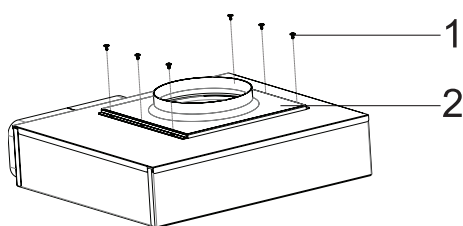

Fig. 30
- Remove the 6 flue ingress plate connection screw and remove the flue ingress plate (Fig. 30).